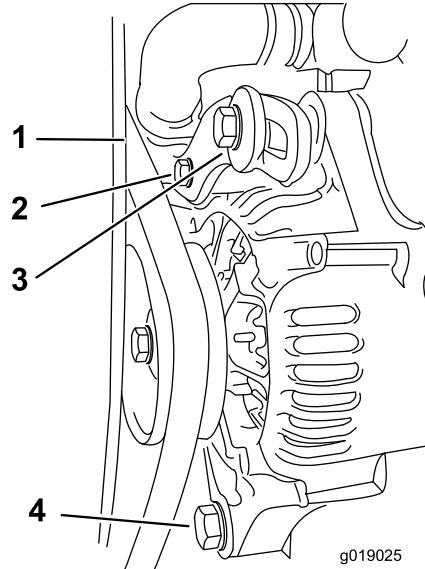

Figure 33
1. Push the drive belt with your thumb in the area shown to check the tension (Figure 33).